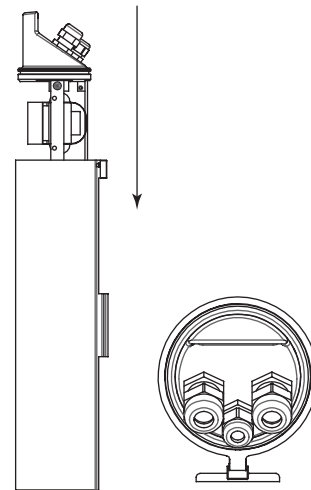

FIGURE 16 Inserting the Cradle Assembly
1. Position the housing vertically and replace the cradle assembly by applying pressure onto the rear cap until the end of the cradle is approximately flush with the back of the housing (see FIGURE 16).